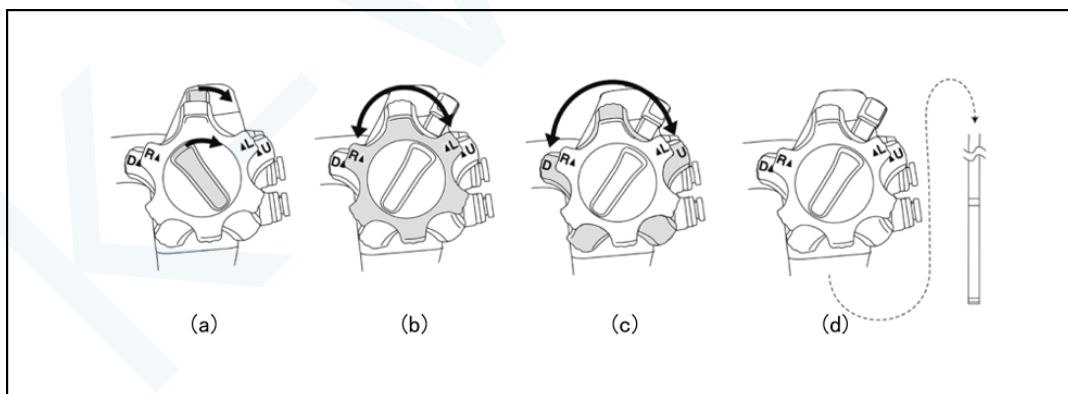

Figure 3.4
1. Check that the U/D and R/L angulation locks are in the “F ▶” position, as shown in Figure 3.4 (a).
2. Slowly rotate the U/D and R/L angulation control knobs to head in all directions, then return to natural position. Check that the bending of the bending section is smooth and normal, can reach the maximum size, and return to the natural position, as shown in Figure 3.4 (b) and (c).
3. Slowly rotate the U/D and R/L angulation control knobs to their natural positions as shown in Figure 3.4, and confirm that the bending section can be smoothly restored to a nearly straight state, as shown in Figure 3.4 (d).